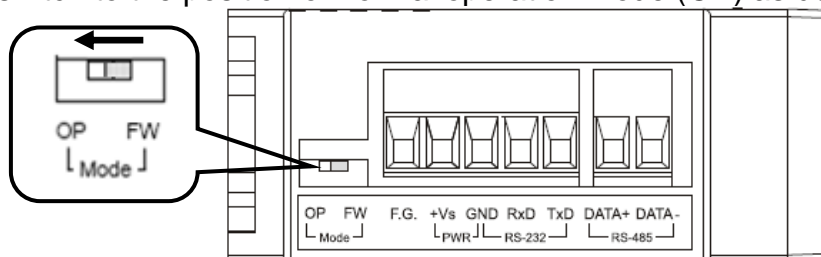

Fig. 3: Push DIP switch to OP position
Push DIP switch to the position of normal operation mode (OP) as depicted in Fig. 3.